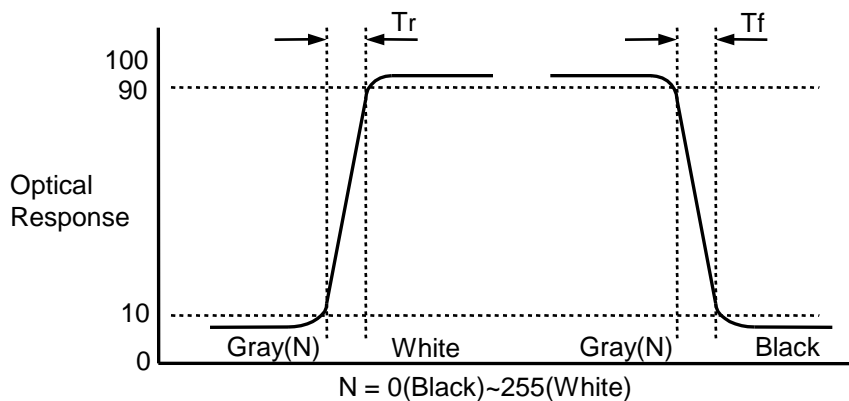

FIG. 4 Response Time
2. Response time is the time required for the display to transit from any gray to white (Rise Time, Tr_R) and from any gray to black (Decay time, Tr_D). For additional information see the FIG. 4.